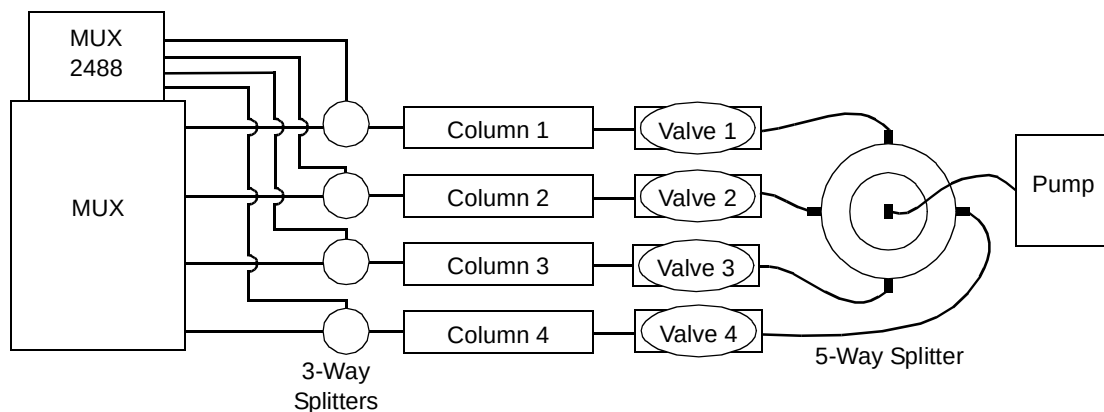

Figure 2-20 Connecting Tubing for the 4-Valve Module
7. Finish installing the HPLC tubing for your application, such as in the following example (Figure 2-20):